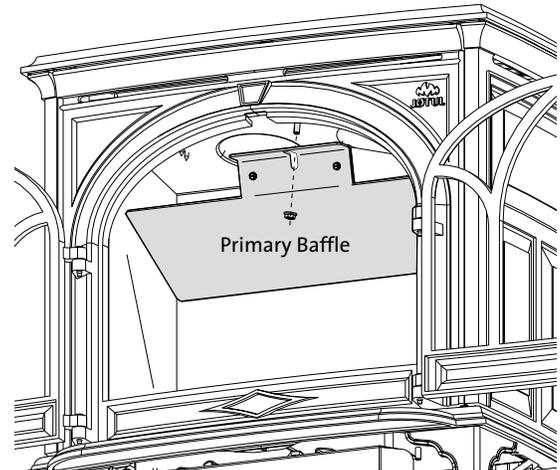

Figure 21.
- **Use of 4" x 6 5/8" vent horizontally terminated, requires that the Secondary Exhaust Baffle be removed. See figs. 21 - 22.**